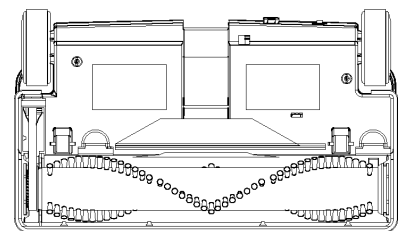

Figure 7
6. Replace the brush cover by inserting the tabs on the front of the cover into the appropriate slots in the Powerbrush base (as shown in Figure 7) and press down on the three clips until they snap-lock into place.